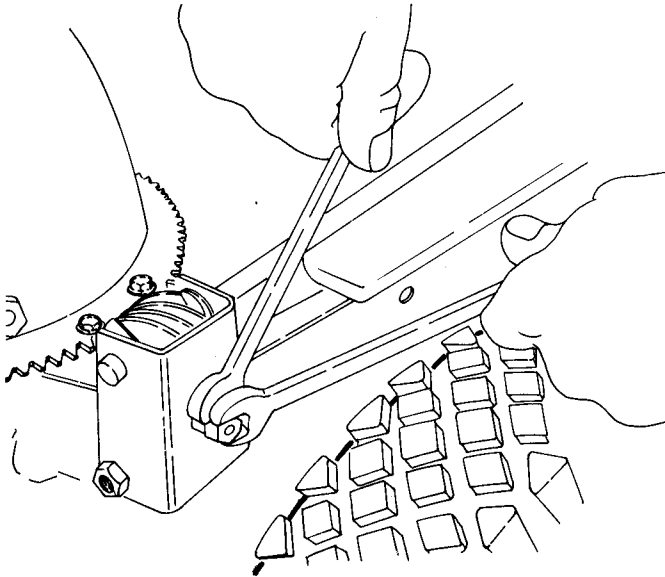
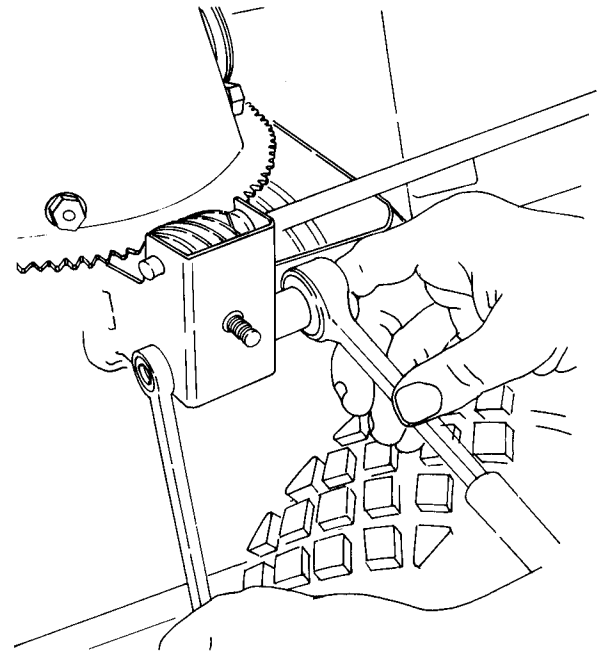

FIGURE 3.1 — REMOVING CRANK JAM NUTS
FIGURE 3.2 — REMOVING CRANK CAPSCREW
STEP 1. Disconnect the chute crank worm assembly from the side of the main frame by removing the two jam nuts (figure 3.1), then pull the capscrew holding the worm gear bracket to the frame (figure 3.2) and slide the crank worm components toward the rear of the unit and out of the way.